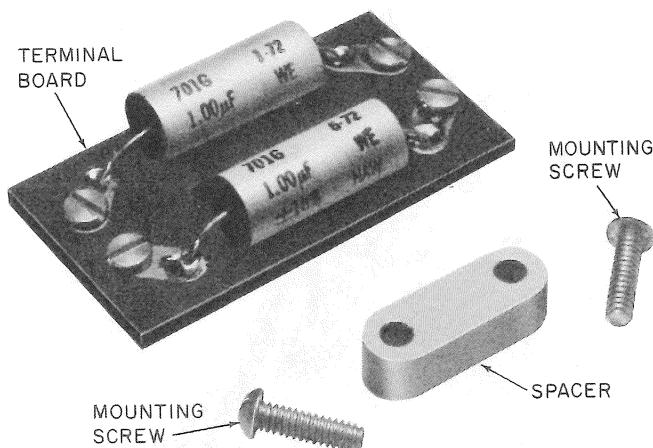

Fig. 51—840362024 Capacitor Board Assembly
- (1) Disconnect, insulate, and store the four ringer leads from the ringer in coin telephone set.
- (2) Install an 840362024 capacitor board assembly (Fig. 51).